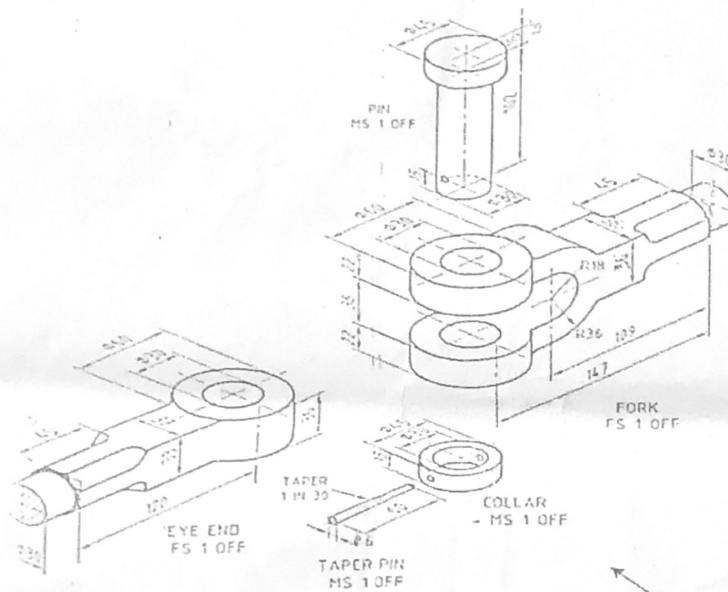

Figure 1: Knuckle Joint
1. Figure 1 shows details from a stationary engine. Viewing from the arrow position, draw the assembled parts of the knuckle joint as shown.